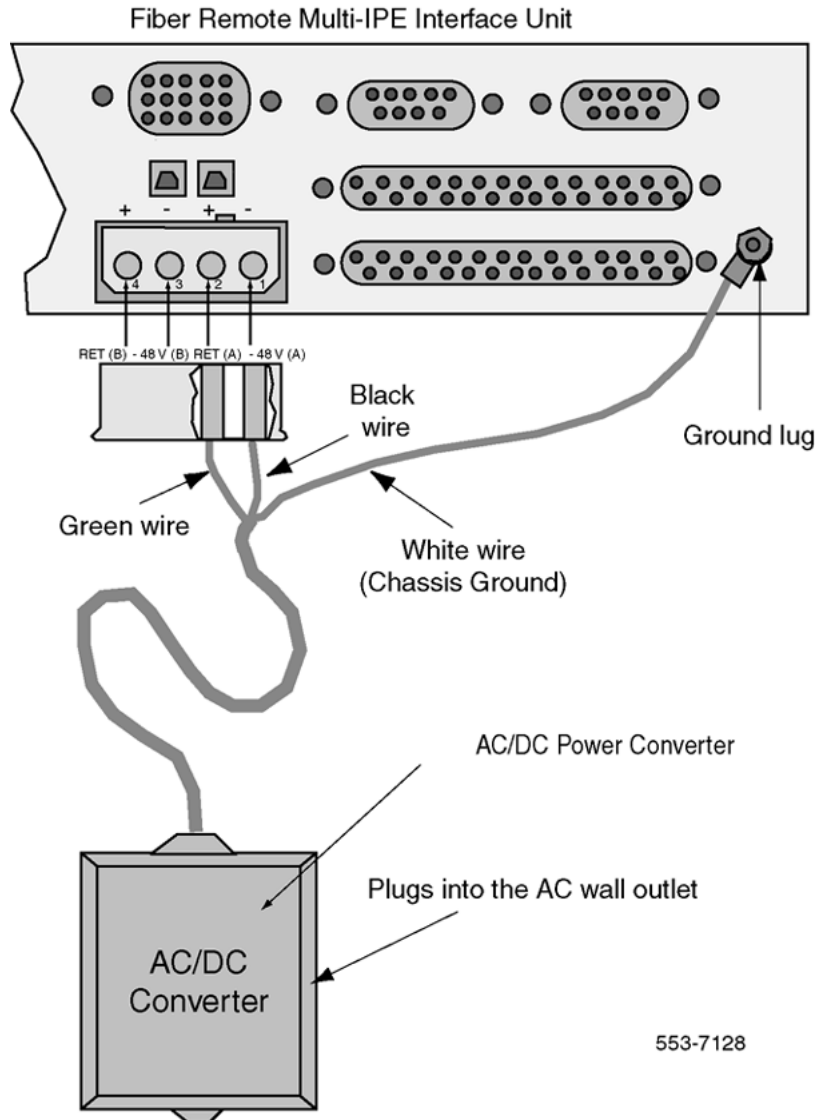

Figure 13: DC system power source connection to the Fiber Remote Multi-IPE Interface unit
The AC/DC Power Converter plugs directly into a 110 V AC wall outlet. The DC power cord extends from the Power Converter to the -48 V DC power connector on the Fiber Remote Multi-IPE Interface unit I/O panel. Refer to Figure 13: DC system power source connection to the Fiber Remote Multi-IPE Interface unit on page 69 for an illustration of this power source connection.
2. Install the white wire onto the Ground lug at the Fiber Remote Multi-IPE Interface unit I/O panel, as shown in Figure 13: DC system power source connection to the Fiber Remote Multi-IPE Interface unit on page 69.
Figure 13: DC system power source connection to the Fiber Remote Multi-IPE Interface unit on page 69 illustrates the POWER connector on the I/O panel of the Fiber Remote Multi-IPE Interface unit.